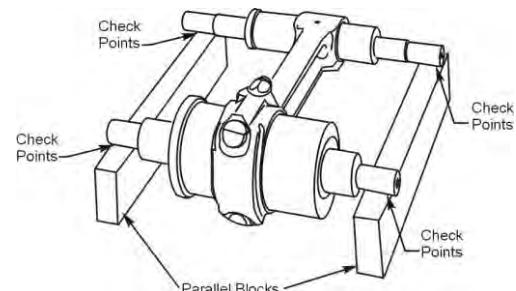

Figure 35
- L. Put the parallel blocks (Figure 35) of the connecting rod parallelism and squareness gage on the surface plate.
- N. For the squareness check measure the clearance at the four check points in Figure 35 where the arbors rest on the parallel blocks using a feeler gage. Record the measurement in the Connecting Rod Inspection Checklist in this chapter